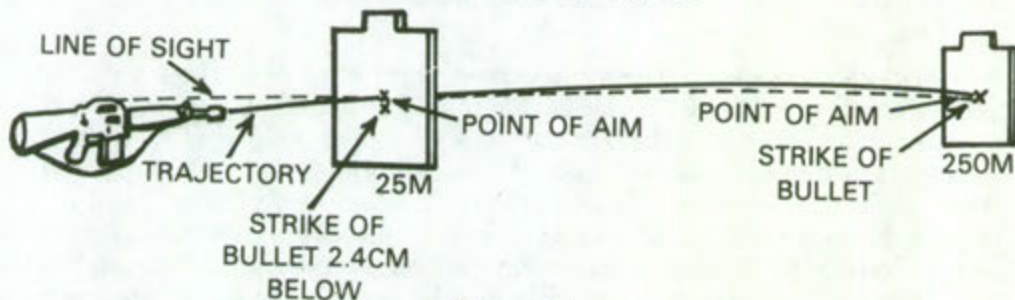

Figure 3.
e. Determining the Battlesight Zero. The 250-meter battlesight zero is determined by firing a series of three-round shot groups at the 25-meter target. The firer aims at the distinctive aiming point at the bottom center of the black rectangle (base of the white cutaway portion) and adjusts his sights until the center of this acceptable shot group is located 5.2 centimeters directly below the aiming point (figure 3) on or around the X.